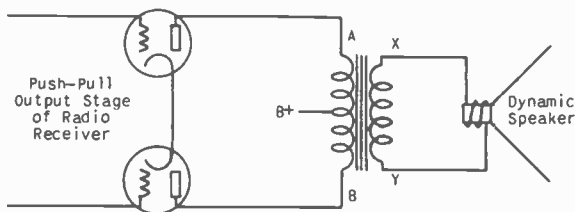

Fig. 16 Demonstrating where to connect an output meter to measure the comparative output of a set under test.
Using this vacuum tube voltmeter, it is now very easy to test the output of a radio receiver. No specific directions can be given because practically every receiver differs to some extent. However, the diagram shown in Fig. 16 will give you an excellent idea about connecting the vacuum tube voltmeter to a receiver.
iment are the input terminals to the vacuum tube voltmeter. If you have a radio receiver which has a dynamic speaker and push-pull output tubes, you can easily follow the directions given in Fig. 16, in connecting the vacuum tube voltmeter to the output of this receiver. Connect two pieces of hookup wire from the aerial and ground posts on the vacuum tube voltmeter to the voice coil connections on your loudspeaker. These are indicated as X and Y in Fig. 16. When the meter is properly connected, you are ready to turn it on by plugging it into the light socket. However, do not turn on the radio receiver as yet. Now, carefully adjust the volume control so that the plate current on the type 56 tube reads 1 ma. or a little less. After this is done, turn on the radio receiver and tune in a strong station. The milliammeter which is connected in the plate circuit of the type 56 tube will then rise and fall according to the A.F. variations which are taking place in the output circuit of the receiver. If there is insufficient voltage developed across the voice coil of the set, it may be necessary to change the connections to secure sufficient output voltage. Turn the radio receiver off and connect the two leads from the vacuum tube voltmeter to points A and B. This is from plate to plate on the push-pull output stage. Again, with the vacuum tube voltmeter adjusted so that the plate current is 1 ma. or less, turn on the radio receiver and again tune in a local station. This time there should be no question but what you will have sufficient A.F. energy to properly operate the vacuum tube voltmeter. The A.F. variations as they rise and fall will give you a good idea of how an operator "rides gain" on a broadcast program. In other words, he controls the volume of the music broadcast and watches a meter similar to the one you are now using. Oftimes, you can see the meter start to rise on an extra loud passage; then as the operator reduces the volume, the meter will stop rising and you can actually notice a difference in the sound output of your speaker.
If your radio receiver does not have a push-pull output stage, the vacuum tube voltmeter can be connected as follows: Connect the ground (G) connection on the terminal strip to the chassis or ground connection of the radio receiver. Then, connect the aerial connection (A) on the terminal strip to the plate terminal of the output tube on your radio receiver. This would be the same as connecting between A and ground or chassis as shown in Fig. 16.